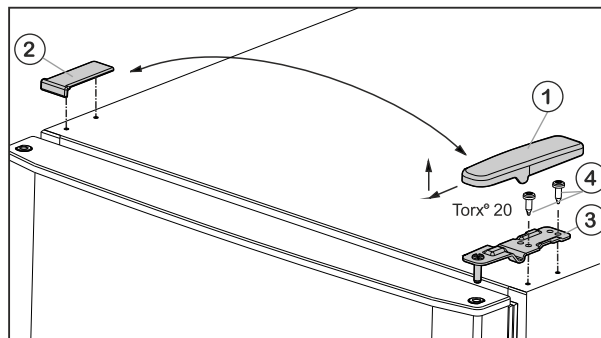

Fig. 5
- ▶ Pull off the cover Fig. 5 (1) forwards and upwards.
- ▶ Lift off the cover Fig. 5 (2).
- ▶ Unscrew the upper turn hinge Fig. 5 (3) (2 x Torx® 20) Fig. 5 (4) and lift it off.
- Insert the upper turn hinge Fig. 5 (3) in the door on the new hinge side.
- Screw in the upper bearing block **tightly (with 4 Nm)** (2 x Torx® 20) Fig. 5 (4). Use a cordless screwdriver if necessary.
- Fit the cover Fig. 5 (1) on the opposite side by sliding it rearwards and latching it into place.
- Press the cover Fig. 5 (2) on the opposite side down into place until it latches.